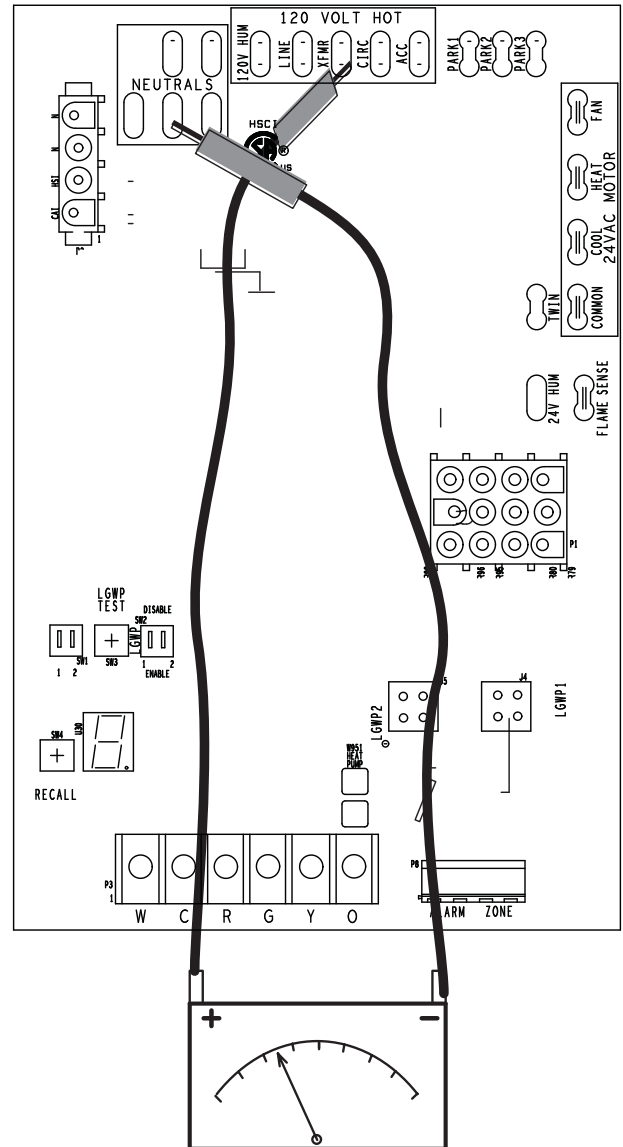

Figure 55.
- 1 - Measure the AC voltage between Line Neutral (spade terminals) and "C" terminal (low voltage terminal block) on the integrated control. See **Figure 55**. A wide variation in the voltage between Line Neutral and "C" as a function of load indicates a poor or partial ground. Compare the readings to the table below. If the readings exceed the maximum shown in **Table 22**, make repairs before operating the furnace.
- 2 - In addition, measure the AC voltage from Line Hot to Line Neutral (spade terminals) on the integrated control. See **Figure 55**. This voltage should be in the range of 97 to 132 Vac.